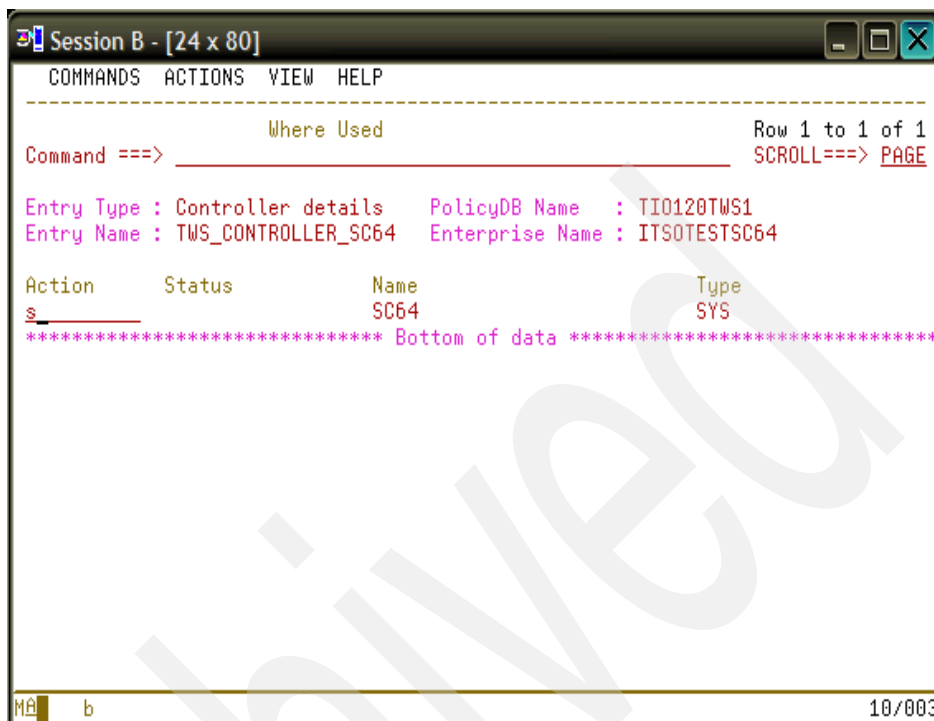

Figure 4-59 Where Used panel for OCS entry
10. Place an **s** in the Action field for WHERE USED and press Enter. The Where Used panel that is shown in Figure 4-59 on page 166 displays.